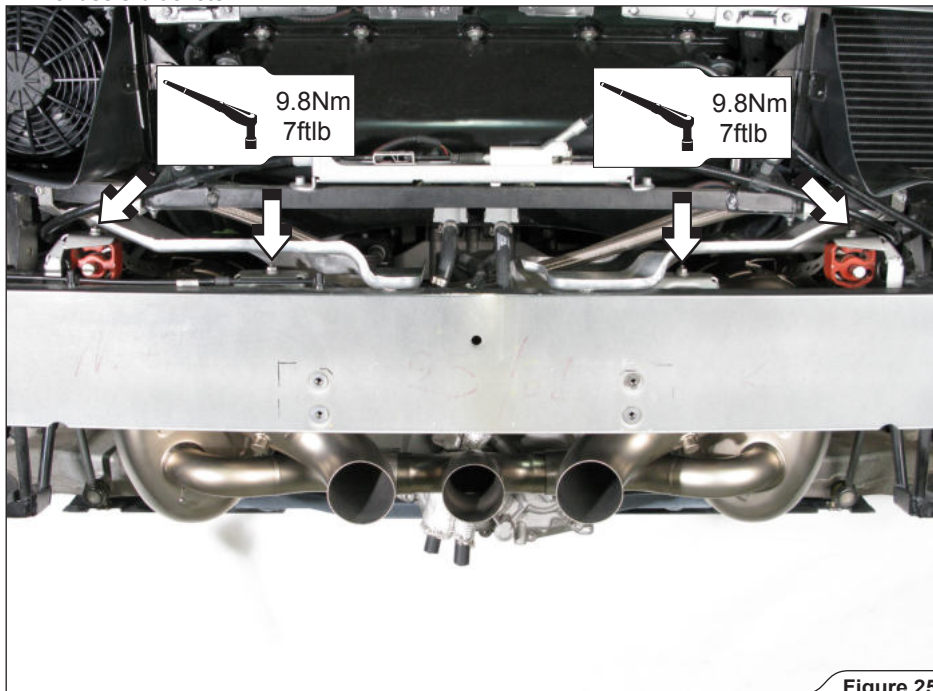

Figure 25
8. **For Slip-On and optional Link Pipes:** slide the mufflers onto the Link Pipes and simultaneously insert the mufflers' collector. Center the mufflers in respect to the chassis, align the rubber mountings and tighten them onto the chassis brackets (**figure 25, 26**).